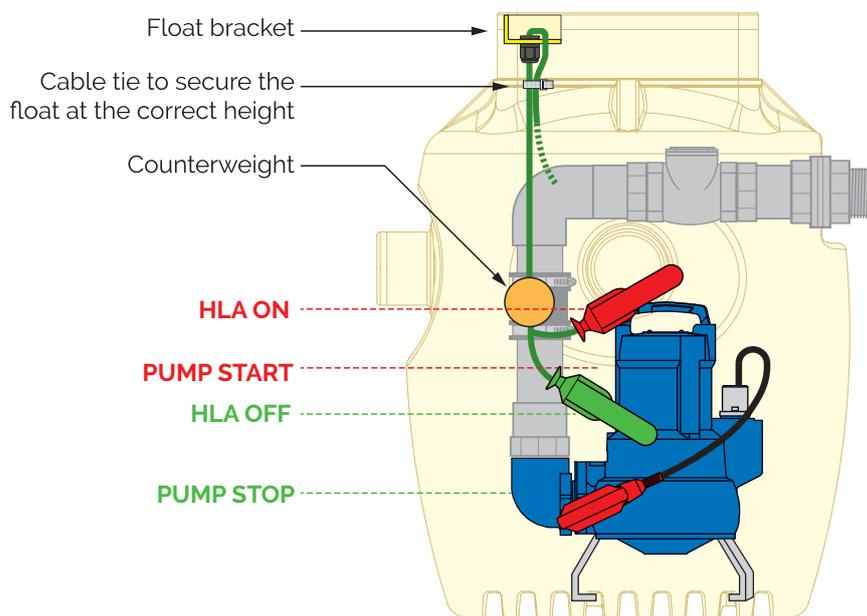

Figure 8. Setting the switching heights of the Delta Pendant Float Switch in a Delta Foul V3 Packaged Pumping Station.
1. Please ensure you position the Delta Pendant Float Switch higher than the primary pump activation point contained within, as shown in Figures 8–10.